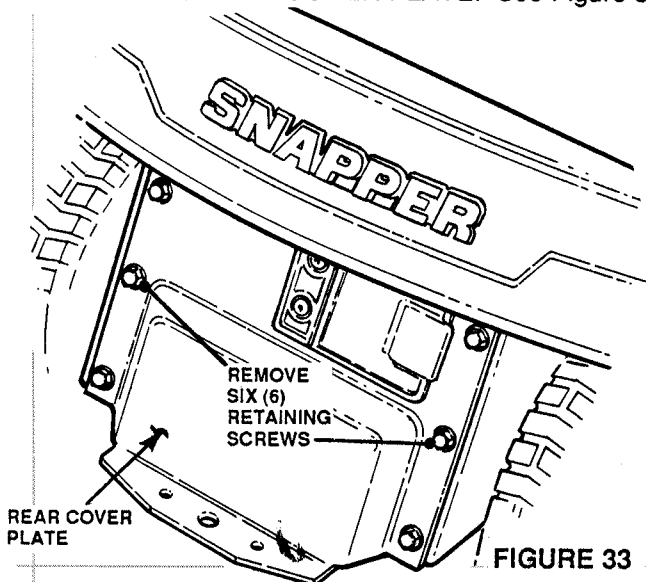

FIGURE 33
3. Remove REAR COVER PLATE. See Figure 33.